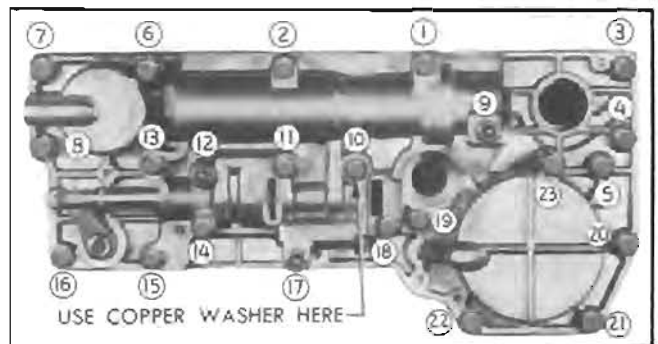

Figure 4-143—Valve and Servo Body Bolt Tightening Sequence
4. Install various length bolts with lockwashers according to depth of holes through valve and servo bodies. Use copper washer on center bolt adjacent to suction pipe opening. See figure 4-143.
5. Tighten all bolts to 5 ft. lbs. torque in the numerical sequence shown in figure 4-143. Repeating the same sequence, tighten all  $\frac{1}{4}$ " bolts and nuts to 11-15 ft. lbs. torque and all  $\frac{5}{16}$ " bolts to 15-20 ft. lbs. While tightening bolts and nuts adjacent to the shift control valve, operate the valve to make certain that it is not binding—it may be necessary to adjust some bolts to low limit on torque to prevent valve binding.